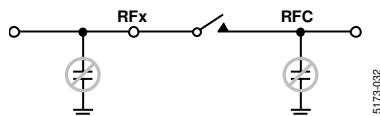

Figure 63. Avoid Having a Large Capacitor Directly Connected to the MEMS Switch
- Avoid connecting large capacitive terminations directly to the switch, as shown in Figure 63. A shunt capacitor can store a charge that potentially leads to hot switching events when the switch opens or closes, affecting the lifetime of the switch.